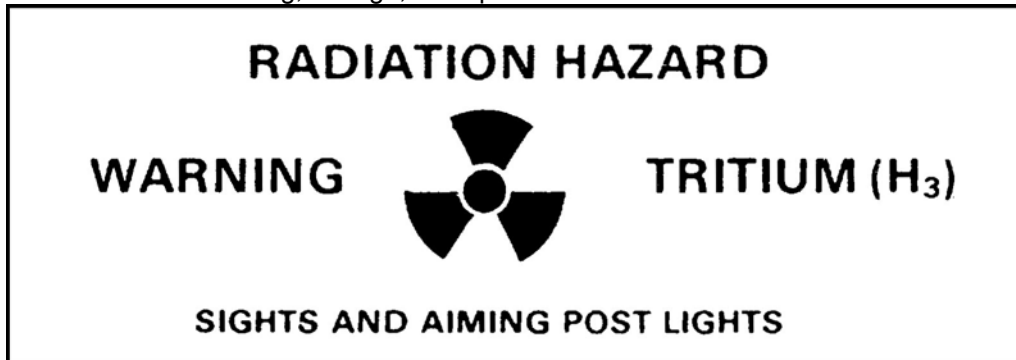

Figure 1. Radioactive warning labels.
- b. Identification. Radioactive self-luminous sources are identified by means of radioactive warning labels (Figure 1). These labels should not be defaced or removed, and should be replaced immediately when necessary. The local radiological protection officer should be consulted for instructions on handling, storage, or disposal.